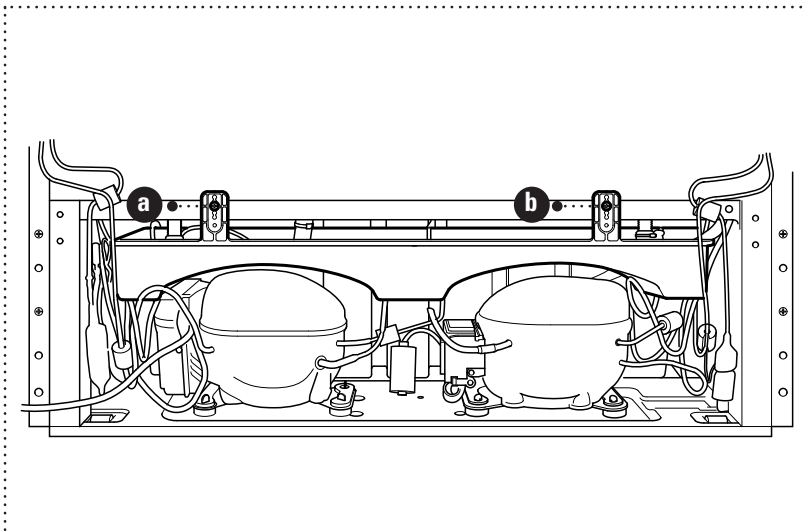

Figure 9
- 1 Remove the vaporisation container by unscrewing the 2 screws (a) and (b) (Figure 9)